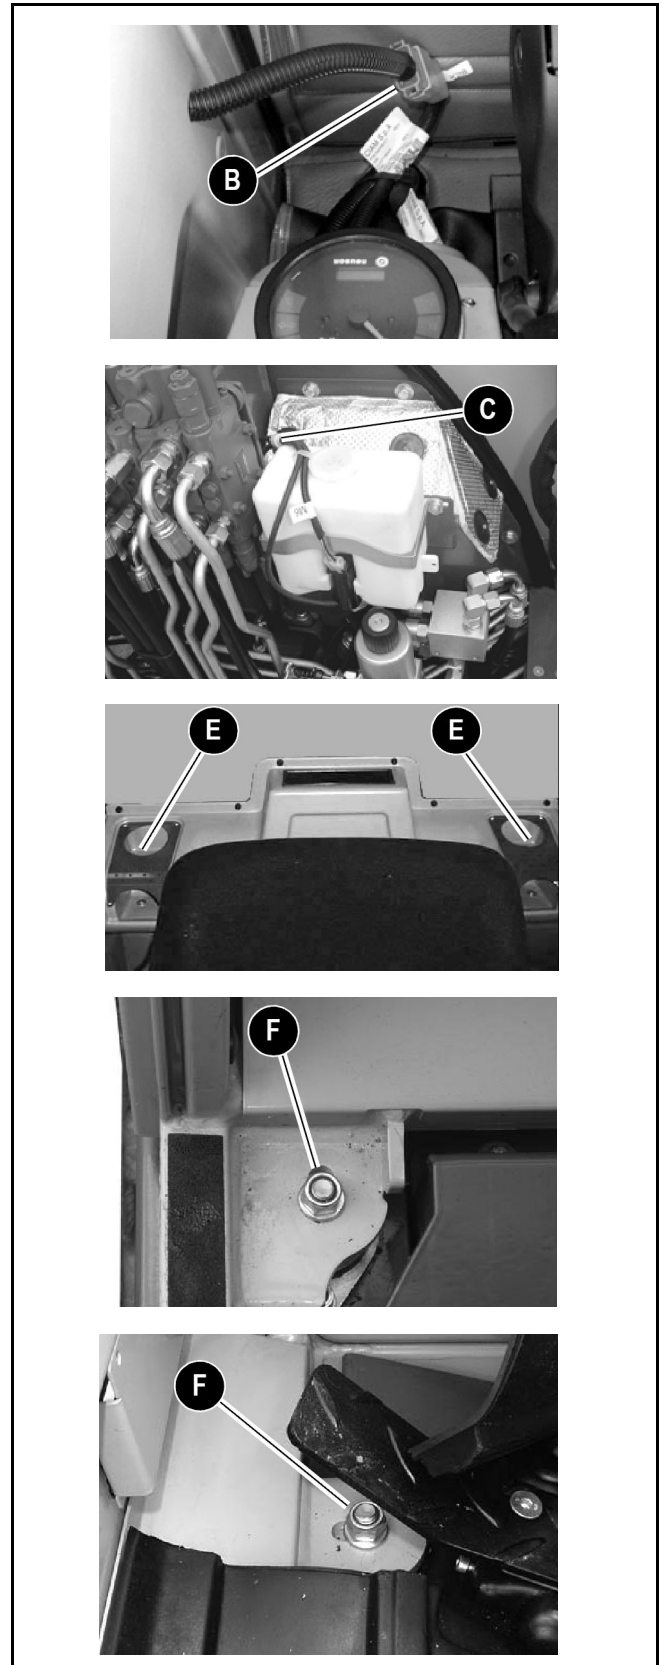

Figure 4-23 Cab/Canopy Removal/Installation
3. Disconnect cab/canopy wiring at plug (B, Figure 4-23) (X28), located next to the seat at the right rear of the cab/canopy.
4. On cabs, disconnect the windshield washer hose (C) from the windshield washer reservoir tank, located at the front right inside the engine compartment.
5. Remove fasteners (E) at the rear corners of the cab/canopy.
6. Lift the front corners of the floor mat and remove fasteners (F) at the front corners of the cab/canopy.